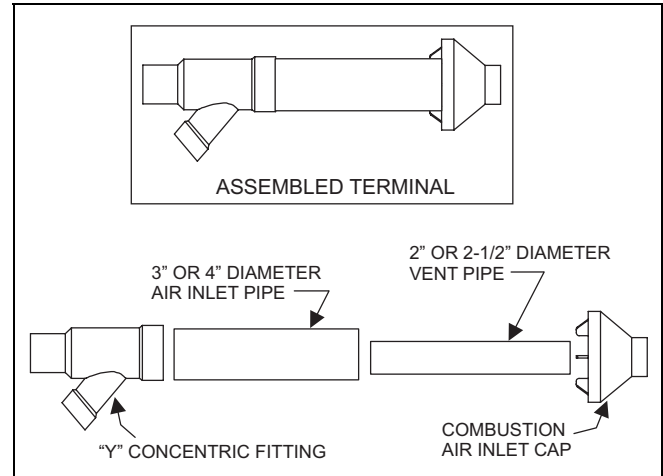

FIGURE 1 - Vent Terminal Assembly
- A. Cement "Y" concentric fitting to larger diameter air inlet pipe (refer to Figure 1).
- B. Cement combustion air inlet cap to smaller diameter pipe (refer to Figure 1).